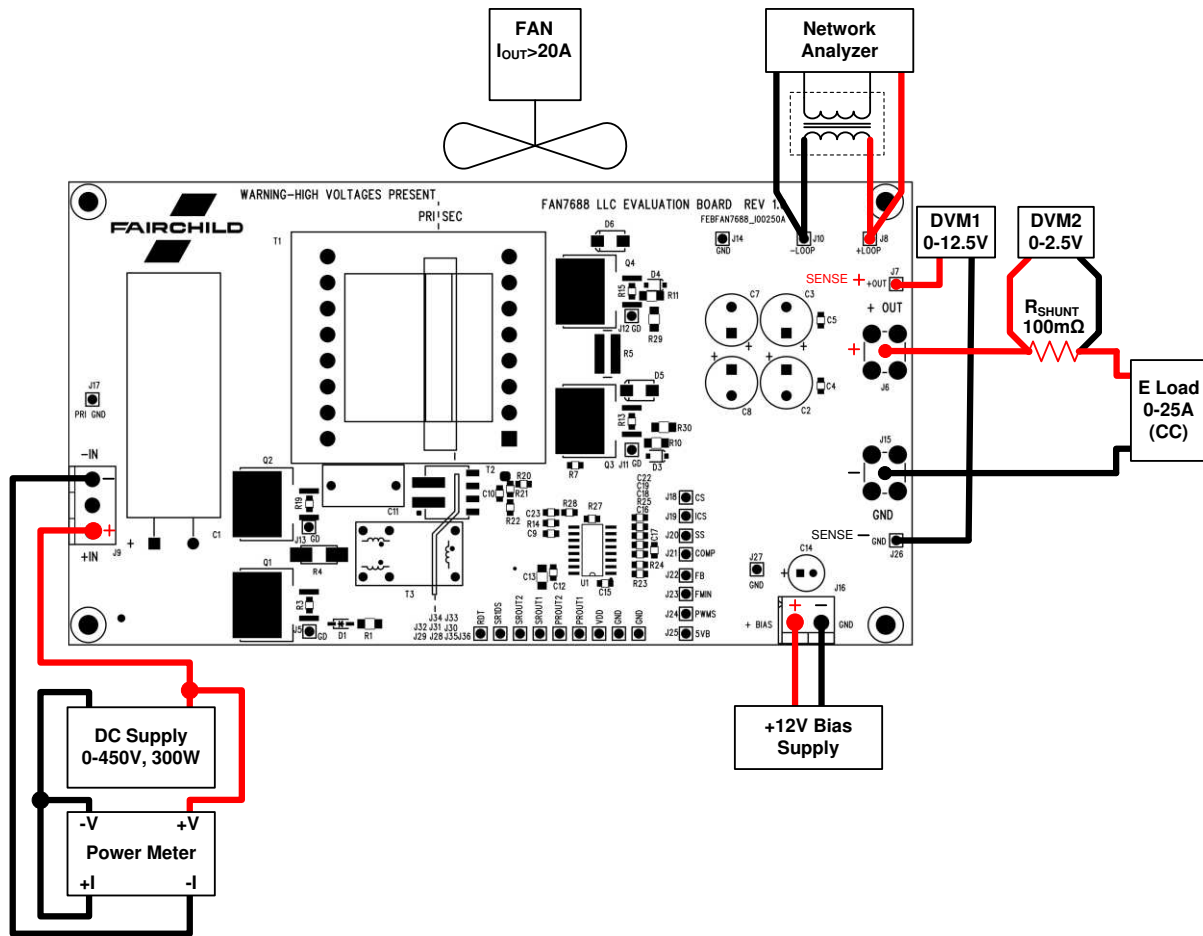

Figure 5. Recommended EVB Test Configuration
Before applying power to the FEBFAN7688_I00250A EVB; the DC bias supply voltage, DC source input voltage and DC electronic load should be connected to the board as shown in Figure 5. Optionally a Digital Volt Meter (DVM1) (set to measure DC voltage) can be connected to J7 and J26 to measure the output voltage and a second DVM (DVM2, set to measure $\leq 2.5 V_{DC}$) can be connected across an external current sensing shunt ($R_{SHUNT}=100\text{ m}\Omega$) to measure DC output current. Note that most ammeter settings are limited to $10 A_{DC}$. Measuring the DC output current using a direct connection into a DVM ammeter can damage the DVM and/or blow the fuse.
1. Connect an electronic load (12.5 V, 0-30 A) to J6 and J15. Set the electronic load to Constant Current (CC) with an initial setting of 0-1A.
3. As shown in Figure 5, connect a resistive shunt in series with the electronic load + or electronic load -. If efficiency is not being measured, the shunt can be omitted.
All efficiency data shown was taken using the test set up shown in Figure 5.